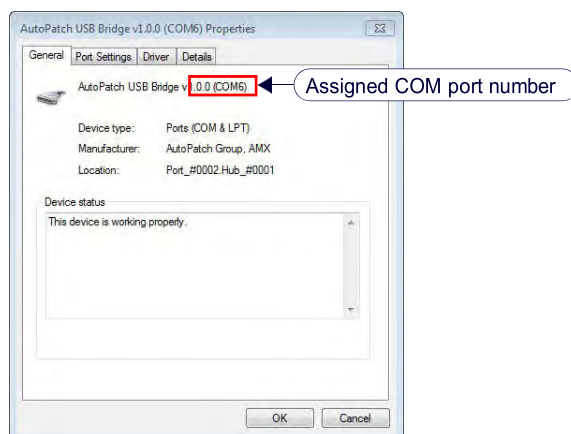

FIG. 191 AutoPatch USB Bridge Properties dialog (General tab)
9. In the *AutoPatch USB Bridge Properties* dialog, select the **General** tab (FIG. 191):